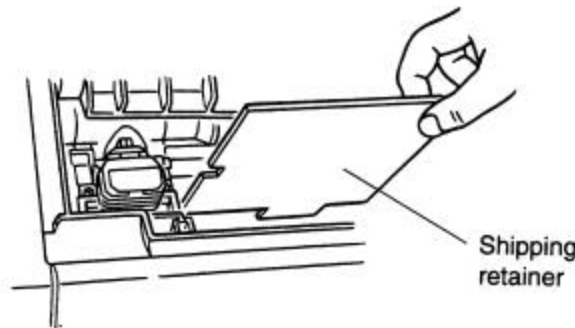

Figure 1, Shipping Retainer Removal
20. Remove the Printer (0528-0032-01) from its carton. Remove all tape from the lower printer and remove the carriage cover to gain access to the print head. Referring to Figure 1, ensure that the printer ribbon cartridge is installed properly and remove the plastic stop that secures the print head.